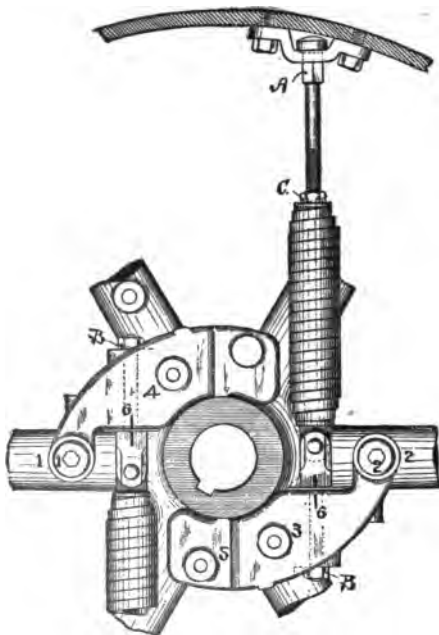

FIG. 90.    ARMINGTON & SIMS GOVERNOR FOR LARGE
Put in the springs, and screw down the nuts marked *A* in Fig. 90 equally, that the tension of springs may be the same, and upon starting the engine adjust these nuts (both alike) until the engine runs at the speed to which the regulator was adjusted at the shop (which will be found marked on the outside end of hub of the regulator wheel). Put on the eccentric rod as it is received—don't move the knuckle joint; screw down the cap solid. Put on the driving wheel and drive the spline; on the larger sizes (12 x 12 and above) the hub of wheel serves as a collar for the shaft and is to be put on to a running fit against the end of box.
**A.** By adding to the weights if a decreased speed is wanted or lessening them if for a quicker speed. Do not alter the tension of the springs by moving the nuts *A*. The smaller size engines have the springs arranged as shown in Figs. 88 and 89, but the larger sizes are arranged as in Fig. 90.